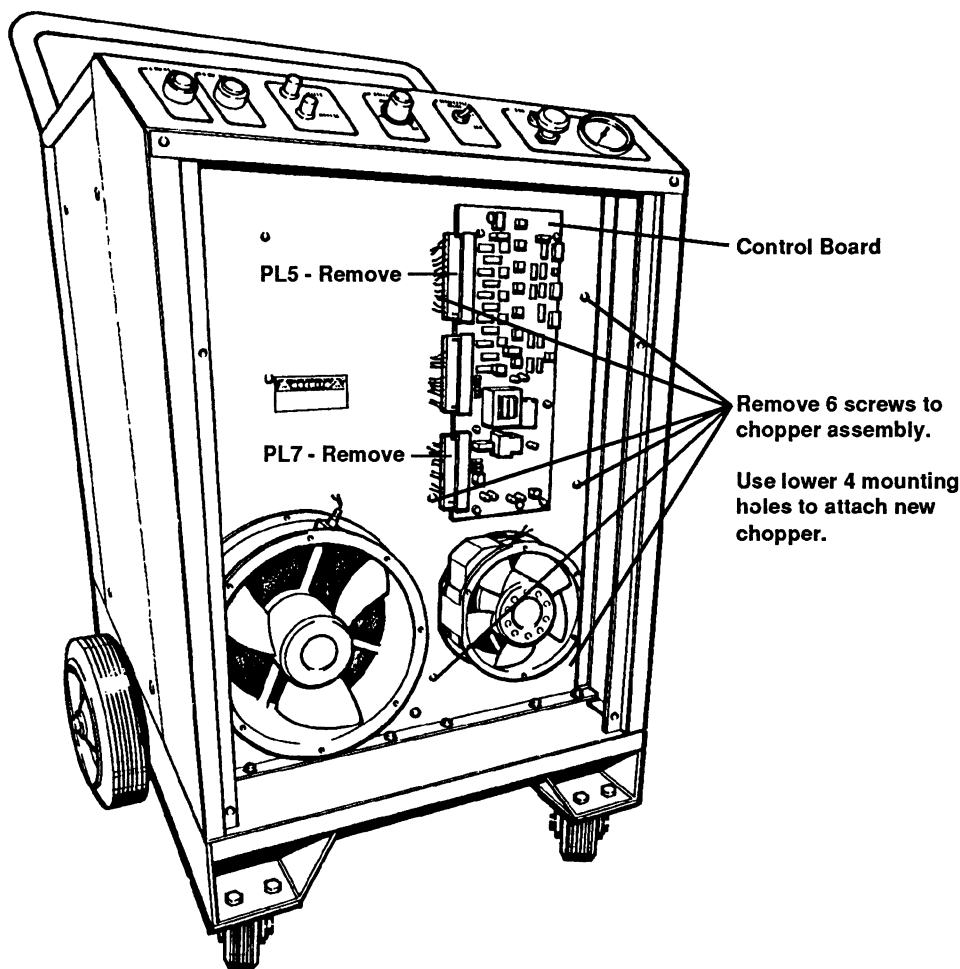

Figure 2-3 - Power Supply Front (MAX100 shown)
1. Remove PL5 and PL7 from the control board for easier access to the screws that secure the chopper to the front panel. See Fig. 2-3.
2. Remove six screws to chopper assembly and remove old chopper. See Fig. 2-3.
9. Reconnect PL5 and PL7 to control board. See Fig. 2-3.